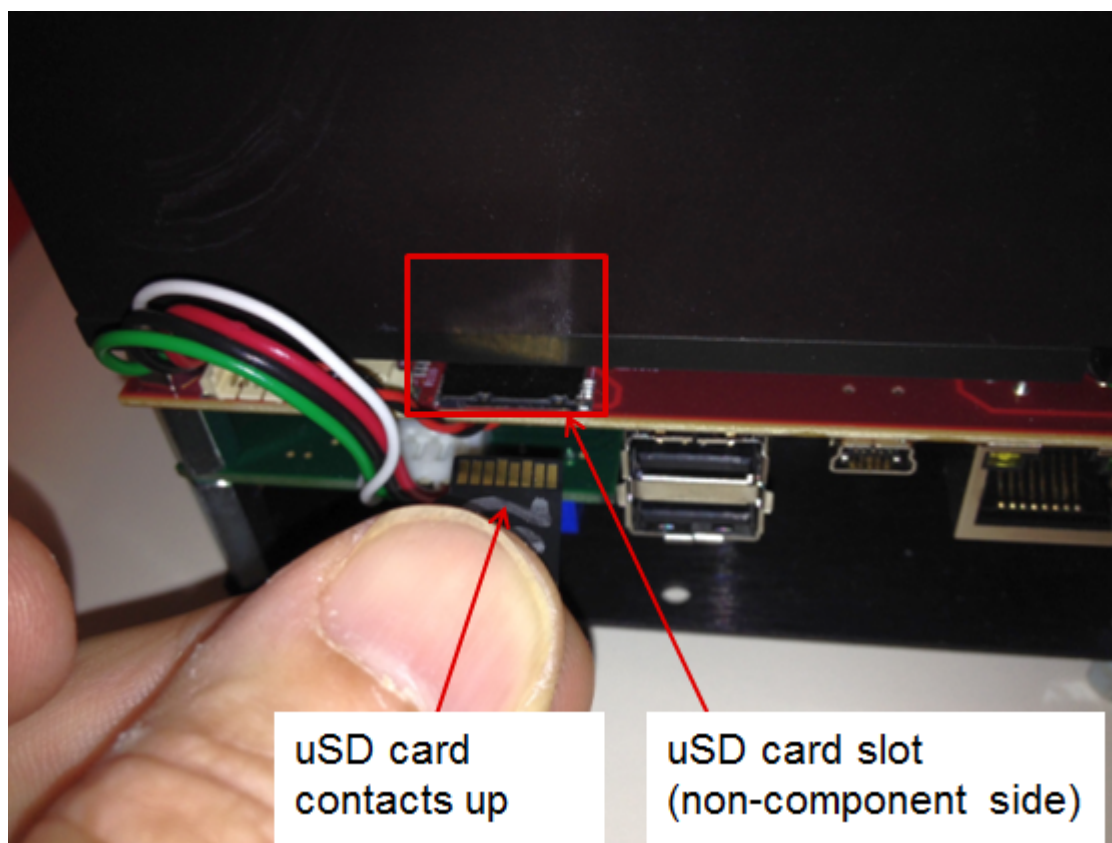

Figure C-1. MicroSD Card Slot
2. Insert newly created microSD card into the microSD card slot on the NIRscan Spectral board with contacts facing away from the board as shown in Figure C-1.